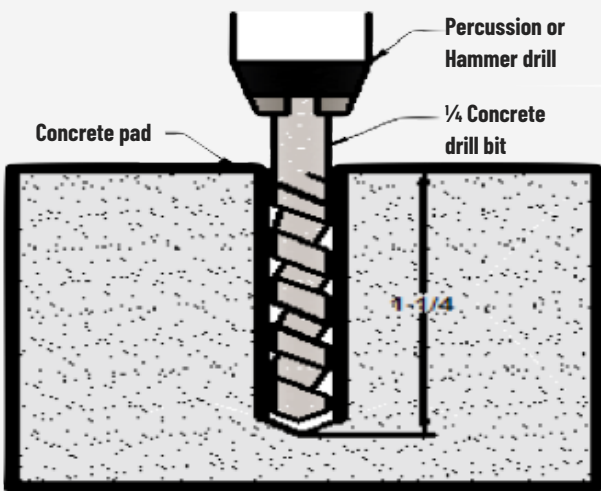

Figure 1 - Drilling XGeo mounting anchor hole
2. Using a 1/4" masonry drill bit, drill to a depth of 1- 1/4" ± 1/8 inch using a percussion or hammer drill. Take caution not to exceed the needed depth, this will adversely affect anchor install height and render the drilled hole unusable. See Figure 1